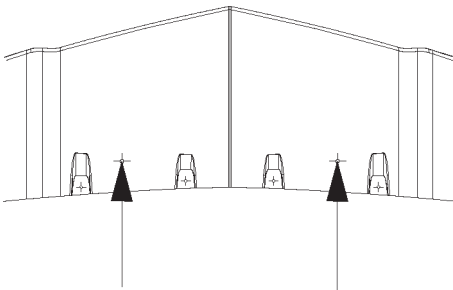

FIGURE 29
3. Use a 1 1/4" (33mm) hole saw to drill 2 holes in the cladding, at the positions marked by the 2 forward cross hairs on the underside of the cladding. Refer to figure 29.